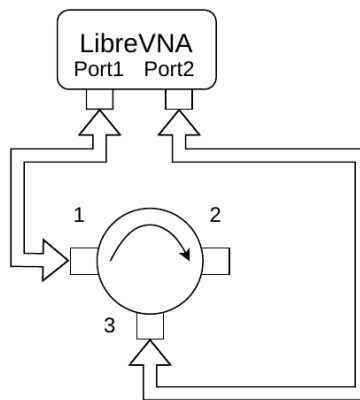

Figure 11: VNA connection with open port 2.
- For this measurement, we connect VNA's Port1 SMA-cable to circulator's port 1, VNA's Port2 SMA-cable to circulator's port 3 and leave circulator's port 2 open. The set up would look like figure 11.